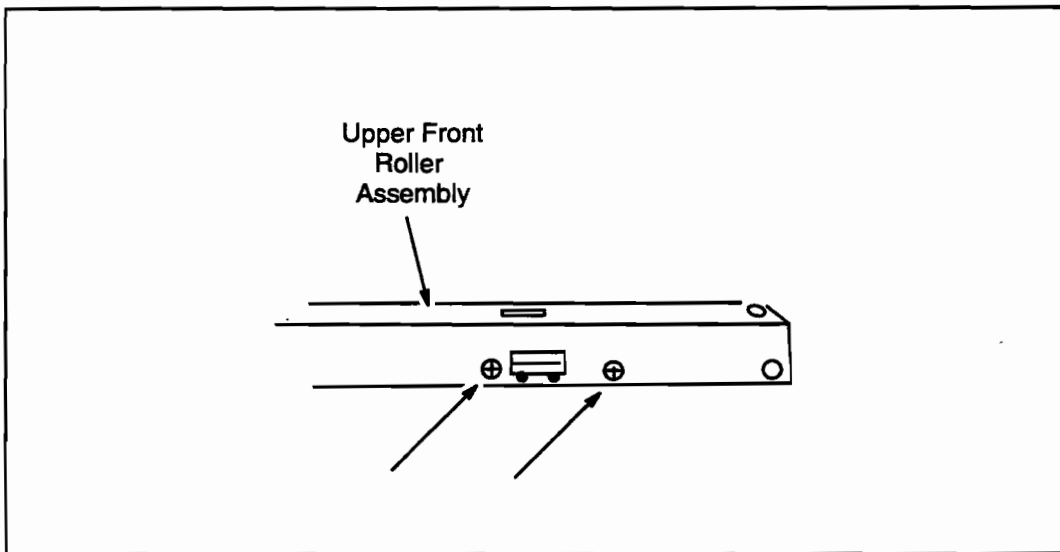

Figure 6-84. Sensor Removal
5. The sensor bracket and PCA can be removed from the roller assembly by removing 2 screws. See Figure 6-84.